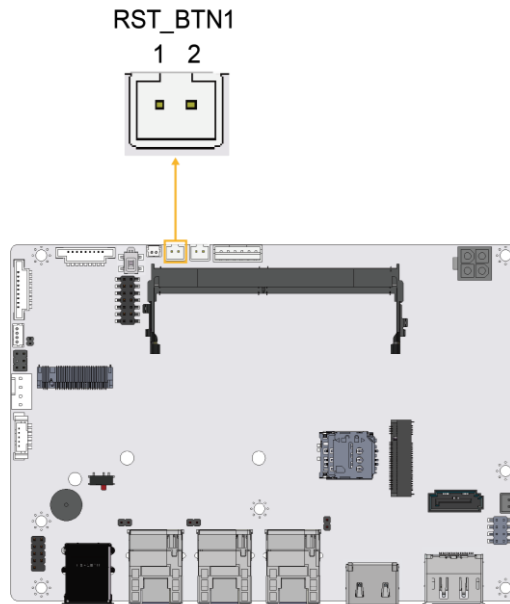

Figure 3-13: Reset Button Connector Location
- CN Location:** See **Figure 3-13**